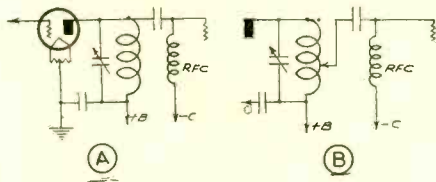

FIG. 1
feed and a consequent elimination of an RF choke in either the plate circuit of one stage or the grid circuit of the next. We cannot have both circuits series-fed. In the case of series-grid-feed, the coupling is shorted out and another is placed in series with the plate lead to the tank. The bias voltage can then be fed through the tank at the cold end (that end maintained at ground potential by the by-pass condenser), but we must feed the plate voltage directly to the plate by means of an RF choke. In the case of the familiar circuit shown in Fig. 1, the grid is shunt-fed, i.e., an RF choke to allow the DC voltage to get to the grid, and at the same time offering a high impedance to the RF voltage to the grid.
FIG. 1 (A)—Fundamental Capacitive Coupled Circuit. "C" is the capacity-coupling condenser. Aside from the impedance mismatch which results from use of this circuit, the RF choke (RFC) is practically always a source of loss. Thus the circuit possesses two evils, which are eliminated when link coupling is used.
FIG. 1 (B)—A capacitive coupled circuit with the plate coil tapped a few turns down from the plate end. That portion of the plate coil below the point where the tap is taken, acts also as part of an untuned grid in a TNT oscillator, which makes the driven stage oscillate at some parasitic frequency higher than that to which the circuits were meant to be tuned. The parasitic circuit includes the lower portion of the tank coil, the capacitive coupling condenser, the lead to the grid, the by-pass condenser in the negative B circuit and the ground.